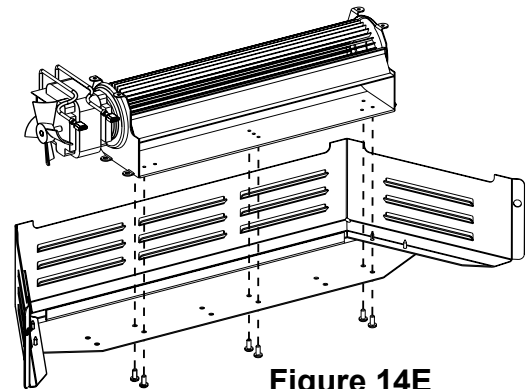

Figure 14E
2. Remove 6 that secures motor to the housing. Remove the motor. **See Figure 14E.**